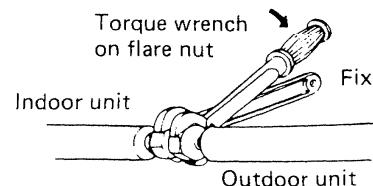

Fig. 27
2. Flare nut on large dia. tube should be torqued to 600~680 lb. in. Flare nut small dia. tube should be torqued to 300~340 lb in. Fig. 27